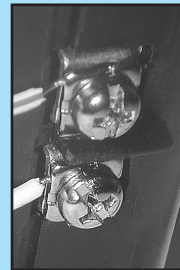

FIG. 3-7 Attachments at STB.
- Insert wire under flat plate and tighten screw. It does not matter which wire, white or striped, goes on which terminal (Fig. 3-7).